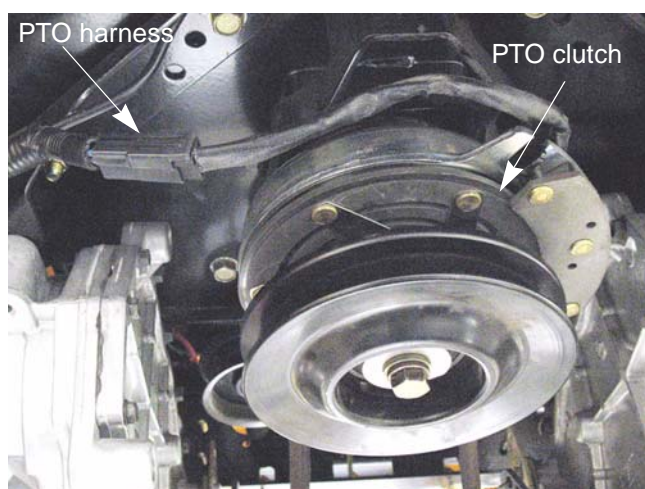

Figure 5.5
12. Unbolt the electric PTO using an impact wrench and a 5/8" socket. See Figure 5.5.